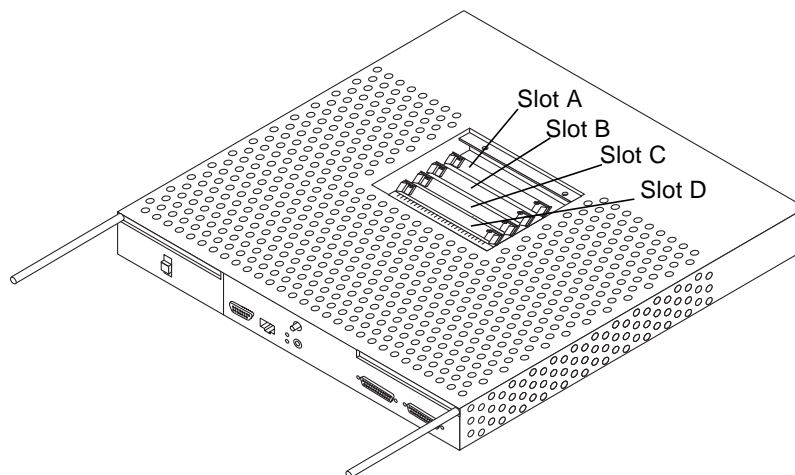

FIGURE 3-9 A1000 Controller—Empty SIMM slots
**b. Remove the SIMMs from slot B and slot A (FIGURE 3-9).**
**6. Replace the 8 Mbyte SIMMs into slot A and slot B (FIGURE 3-9).**
**7. Remove the two 32 Mbyte SIMMs from the antistatic packaging. Install them into slot C and slot D (FIGURE 3-9).**